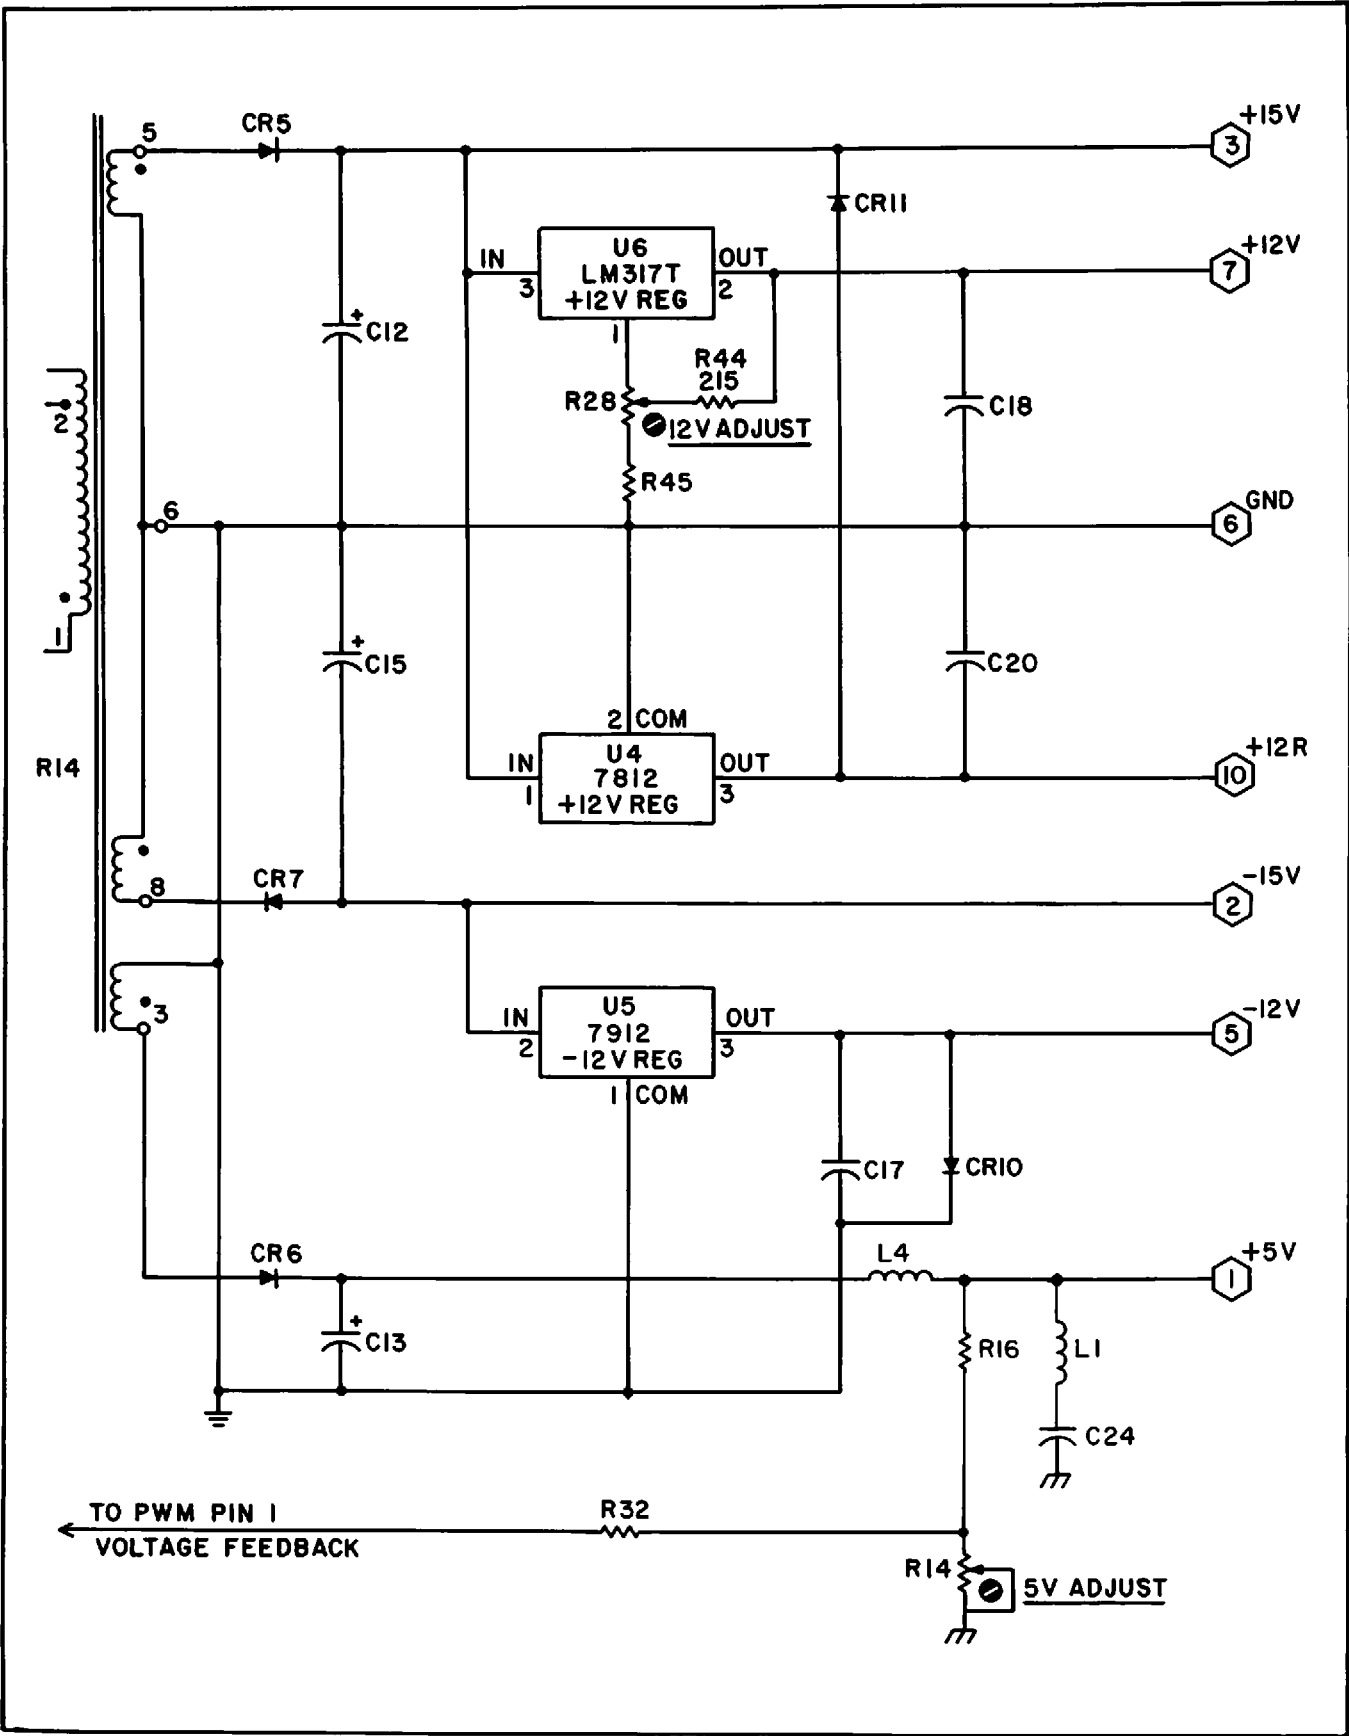

Figure 2-59
2.3.13.3 5V. Supply Voltage Regulation (Refer to Figure 2-59 and 2-54)
2.3.13.5 + and -15 Volt Supplies (Refer to Figure 2-59)